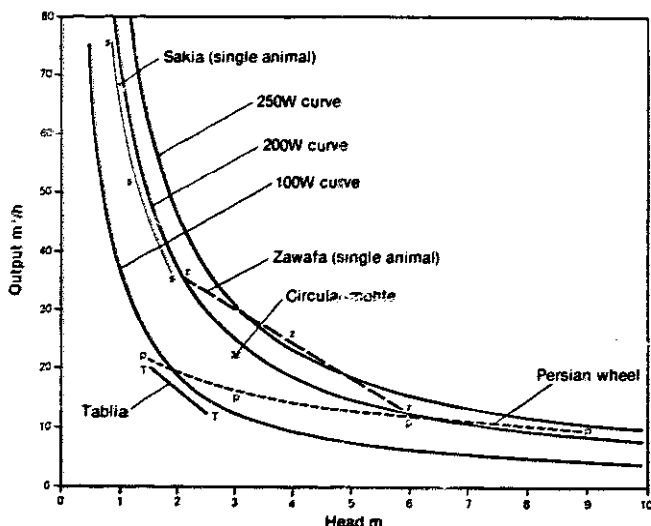

Fig 4. Discharge versus head performance: Traditional animal-powered pumps.
**Animal power** Draught animals of various types are a common and vital source of power in many countries of the Third World. The available power output depends on a number of factors including weight, strength, duration and nature of work (continuous, discontinuous, sustained or short-term), and the environment. Compared to human muscle power they are approximately 5 to 10 times more powerful. Table 3 gives an indication of the power available from different sized animals working alone or as a pair. An alternative rule-of-thumb guide is 60W per 100kg animal weight. Figure 4 shows the discharge versus head performance data for the most common traditional animal-powered pumps with the 100, 200 and 250W power curves superimposed.